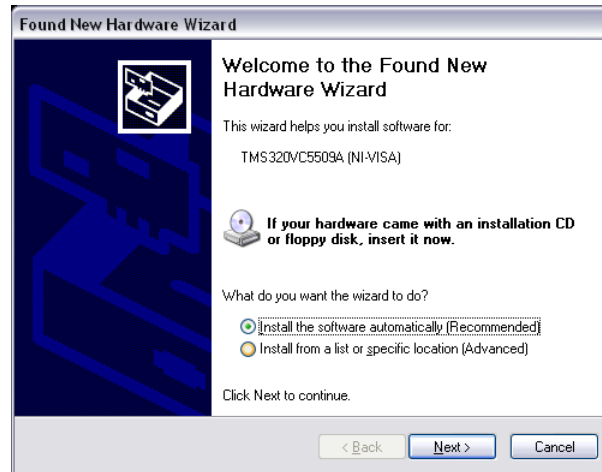

Figure 9. NI-VISA Driver Installation Prompt
- Step 2. The computer should recognize the new hardware and prompt the user for drivers, as shown in Figure 9. This driver should be present in the PC hard drive with the ADCPro files. Direct the PC to search the driver and install it by clicking **Next -->** at every prompt.